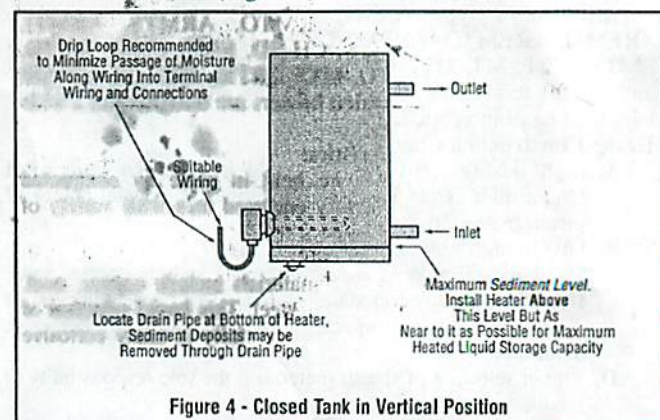

Figure 4 - Closed Tank in Vertical Position
B. Vertical Position (Figure 4)